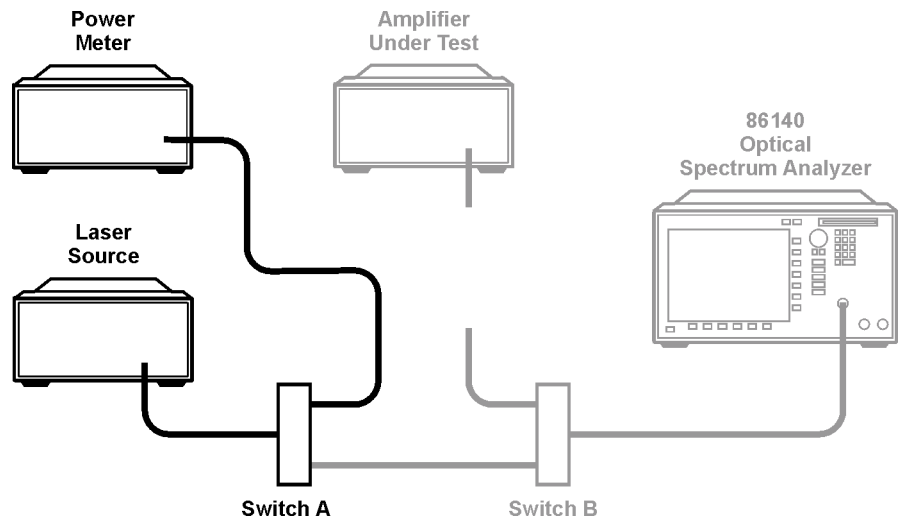

Figure 1-6. Power Meter Measurement
- 6** Connect the source to the power meter through switch A as in Figure 1-6. Set the power meter wavelength parameter to the source mean wavelength value.